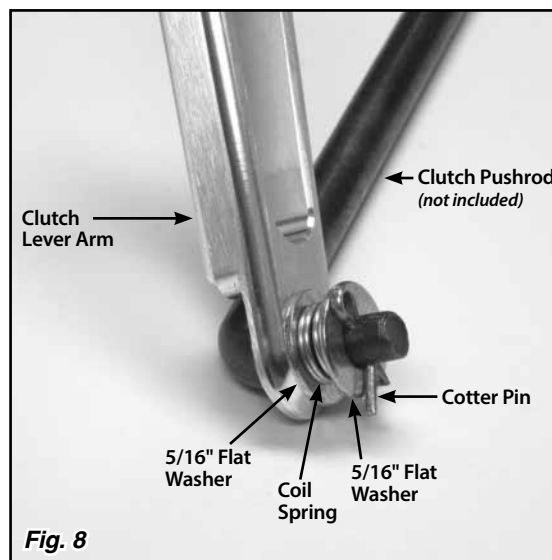
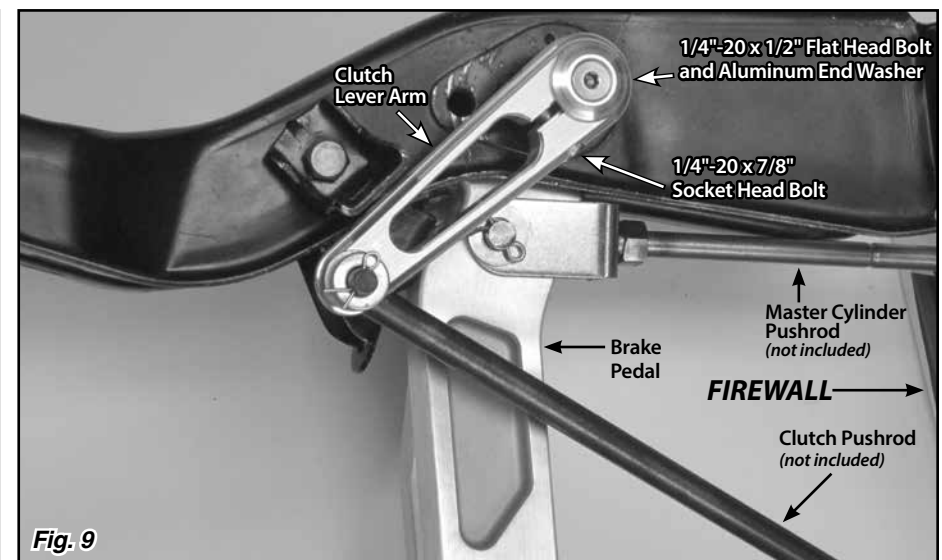

Fig. 8
Fig. 9
Step 7: Connect the clutch lever arm to the original clutch pushrod (not included) using a 5/16" flat washer, the coil spring, another 5/16" flat washer, and small cotter pin as shown in Fig. 8. Then install the clutch lever arm onto the right hand end of the splined shaft. Install the 1/4"-20 x 1/2" flat head bolt and aluminum end washer onto the right hand end of the splined shaft. Tighten the 1/4"-20 x 7/8" socket head bolt in the clutch lever arm to clamp it into place. Fig. 9